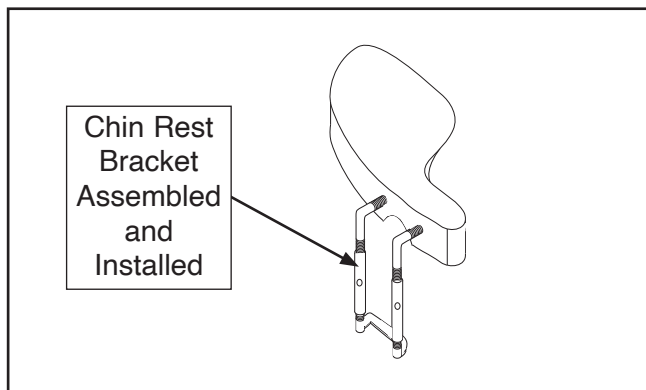

Figure 18. Chin rest bracket installed.
7. Thread chin rest posts into tapped holes (see **Figure 18**).
8. Reassemble and adjust chin rest bracket, then loosely tighten barrel nuts (see **Figure 18**).